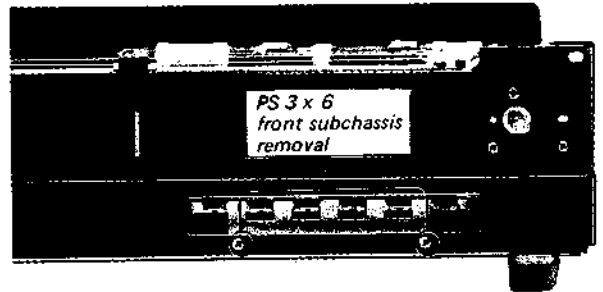

Fig. 2-8. Front subchassis removal
- Remove the two screws shown in Fig. 2-8. This frees the front subchassis with dial cord.